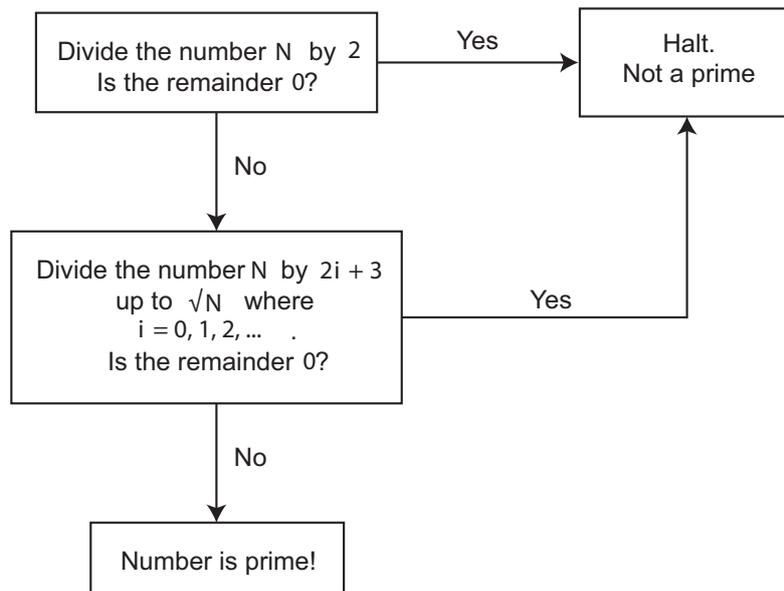

Figure 2: Possible prime number detection algorithm.
- Construct a program that tests whether an input number is a prime number or not. Use a case structure within a while loop. Check division with respect to 2 and follow the flowchart provided in Fig. 2.